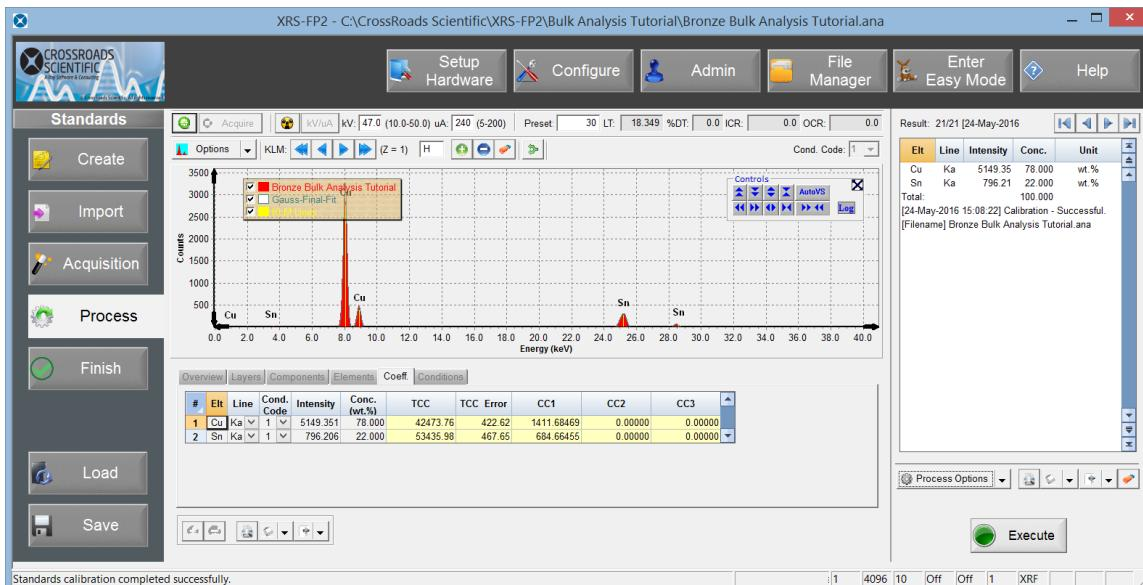

Figure 15. XRS-FP2 Standards Workflow – Process. Process the spectrum for the type standard and generate TCCs.
- Now select the **Process** button. Then select the **Execute** button in the R-hand panel to process the type standard spectrum and generate calibration coefficients (TCC). Calibration coefficients, sensitivity factors, will now be listed for each element (Cu & Sn in this case) under the “Coeff.” Tab. See Figure 15 below.